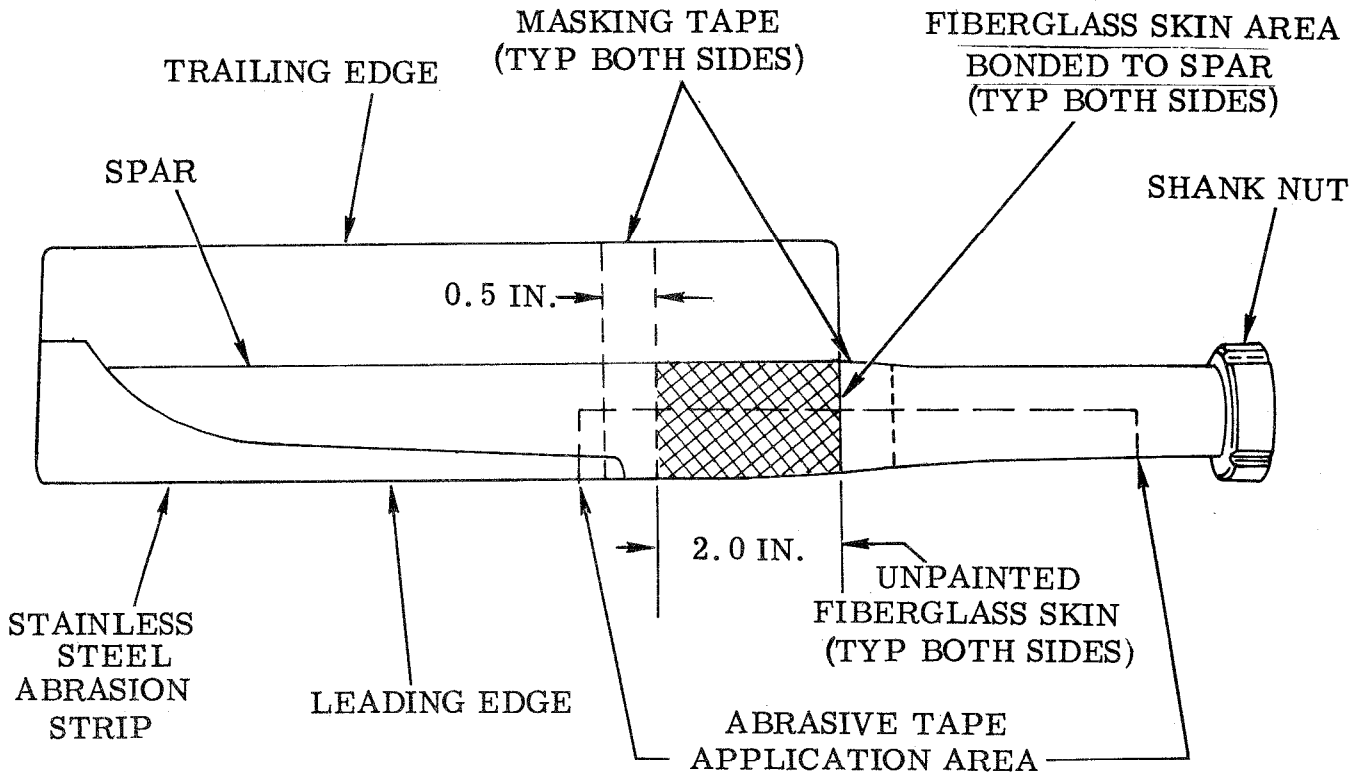

FIGURE 1. INSPECTION-TAIL ROTOR BLADE ASSEMBLY
a. Carefully peel existing abrasive tape from both tail rotor blades. (See Figure 1).
d. Visually inspect the unpainted area of the fiberglass skin which covers the steel spar, for evidence of voids. (See shaded area, Figure 1)
- a. Visually inspect the unpainted area of the tail rotor blade fiberglass skin which covers the spar, for evidence of voids. (See shaded area, Figure 1)